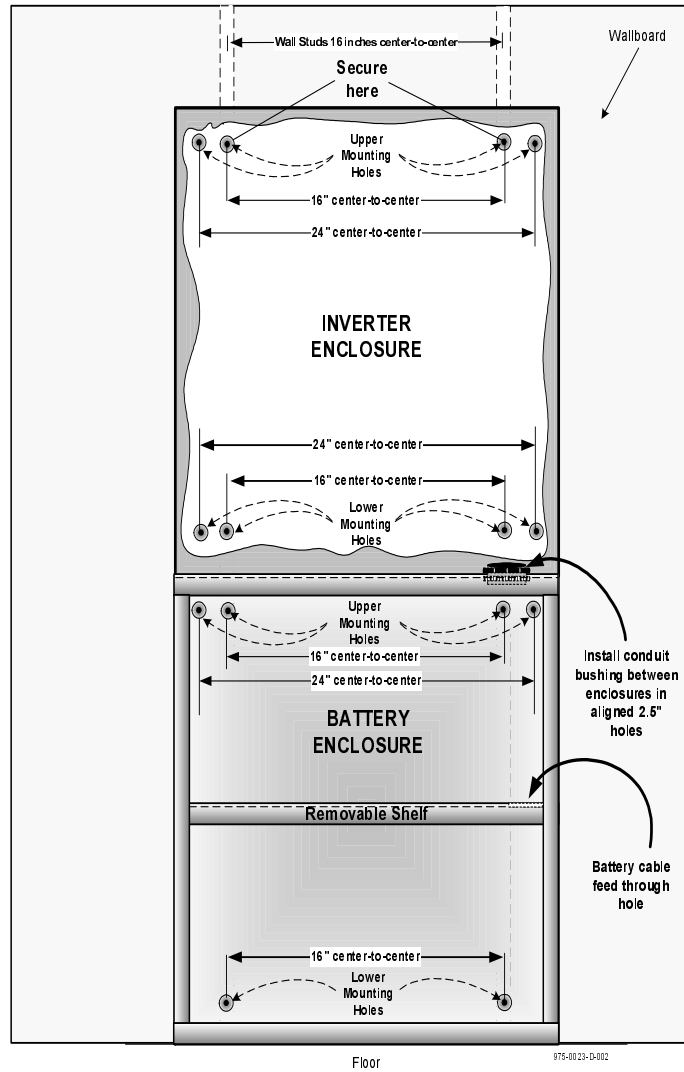

Figure 2-6
1. Position the Vesta Battery Enclosure against the wall where it will be installed. A floor loading pad may be required. Remove the front cover from the Vesta Battery Enclosure (BE) by loosening the two screws near the top of the front panel. Lift up slightly and remove the panel.
2. Ensure the pass-through hole (2.5 inch diameter) has the conduit/cable bushing installed to protect the battery cabling (installed later). Refer to Figure 2-6.
7. Install the 2 inch conduit knockout bushings into the aligned 2.5 inch holes. The bushing must pass through the knockout holes of both BE enclosures. Refer to Figure 2-6.
9. Unpack the Vesta Power Module (PM) and remove the front cover by loosening the two screws on the top of the front panel. Lift up slightly to remove the panel.
11. Install a 2 inch conduit knockout bushing into the aligned 2.5 inch knockout holes. The bushing must pass through the knockout holes of both the PM and BE enclosures. Refer to Figure 2-6.